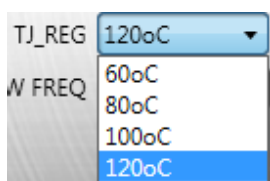

Figure 17: Setting the Thermal Regulation Threshold
- The default value is 120°C (see Figure 17).